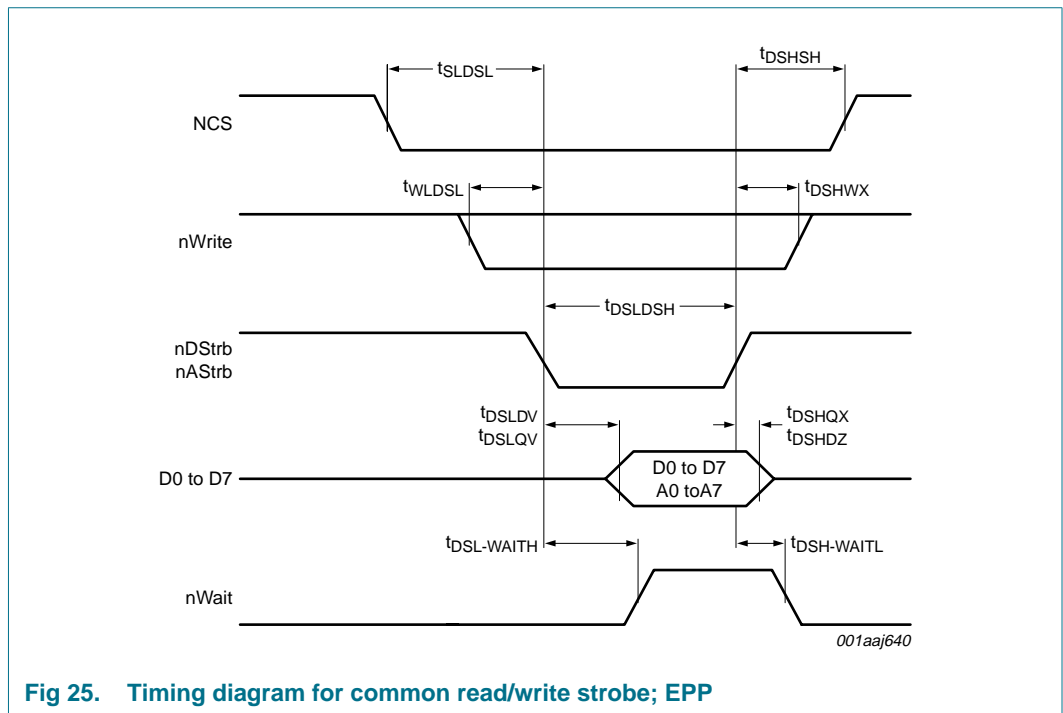

Fig 25. Timing diagram for common read/write strobe; EPP
**Remark:** Figure 25 does not distinguish between the address write cycle and a data write cycle. The timings for the address write and data write cycle are different. In EPP mode, the address lines (A0 to A2) must be connected as described in Section 9.1.3 on page 8.